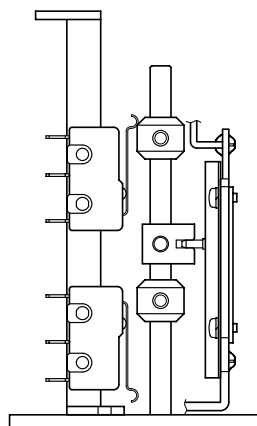

Figure 10-1. Rising Side Adjustment
- After setting to the rising position as shown in figure 10-1, adjust the dog (on the output stem rising side).